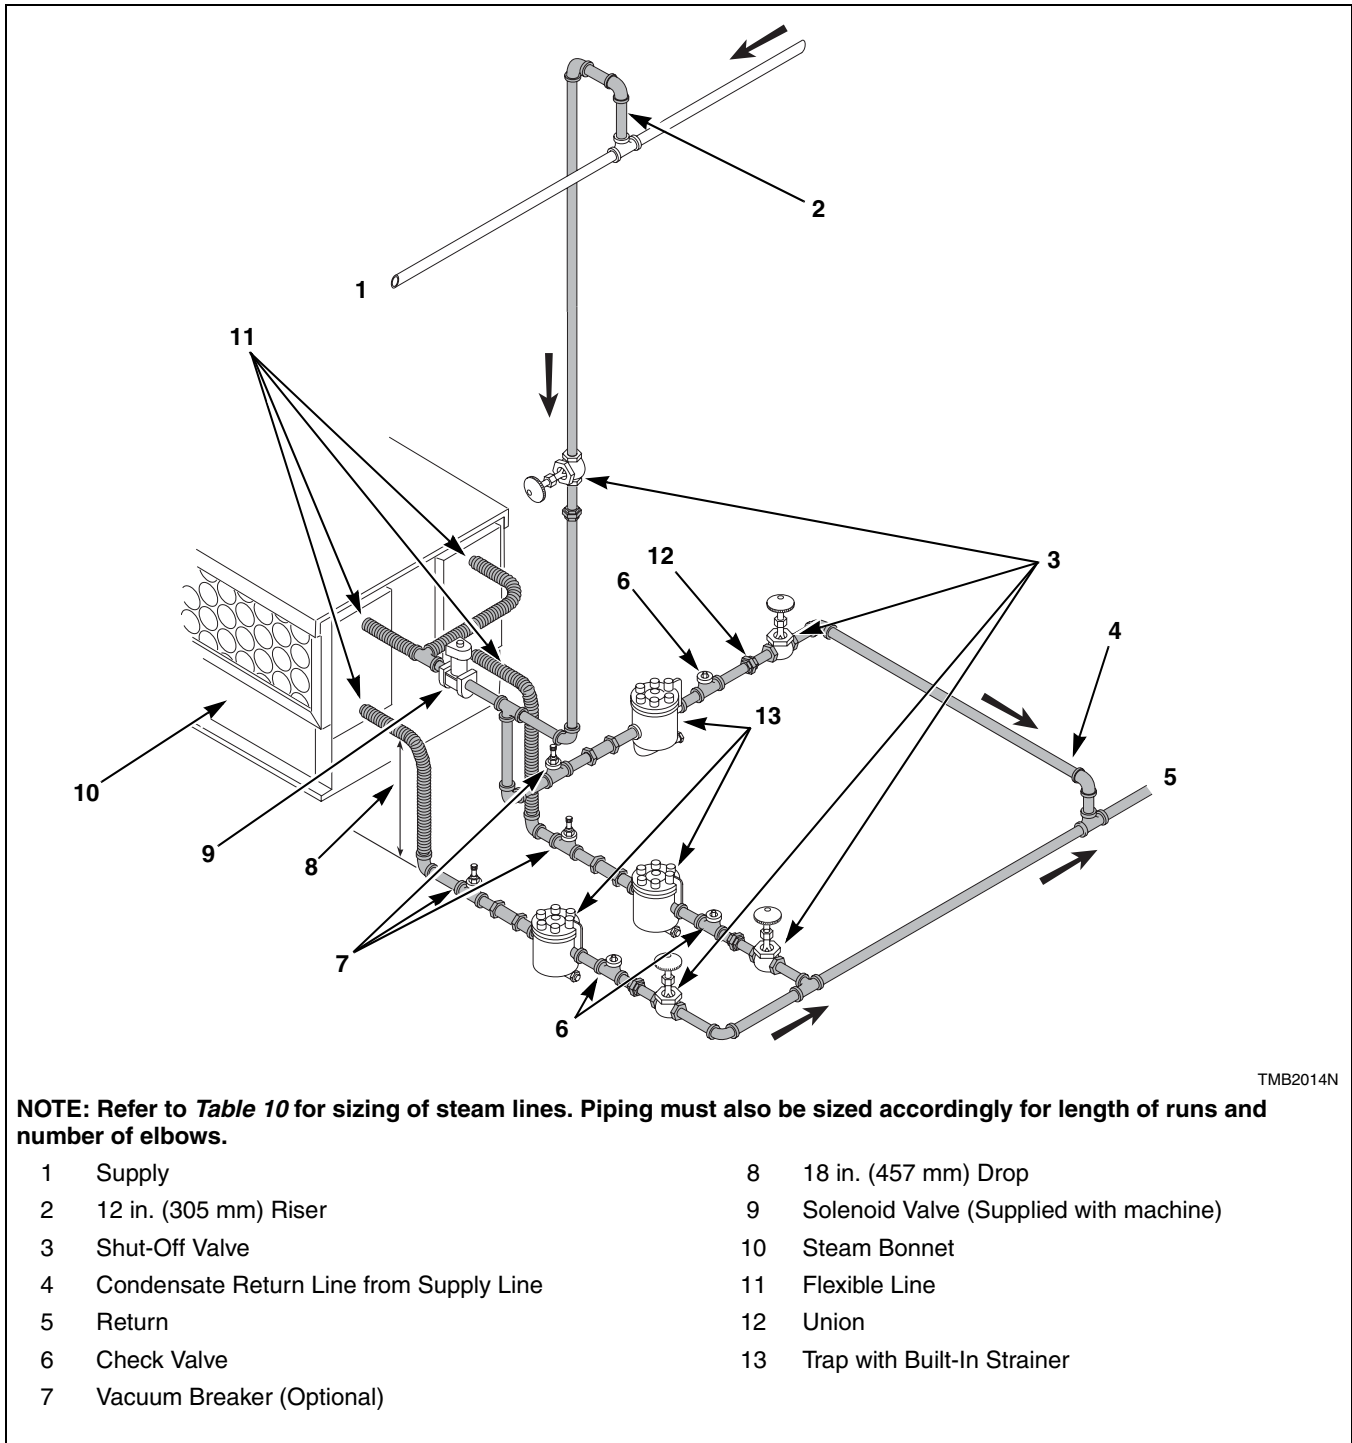
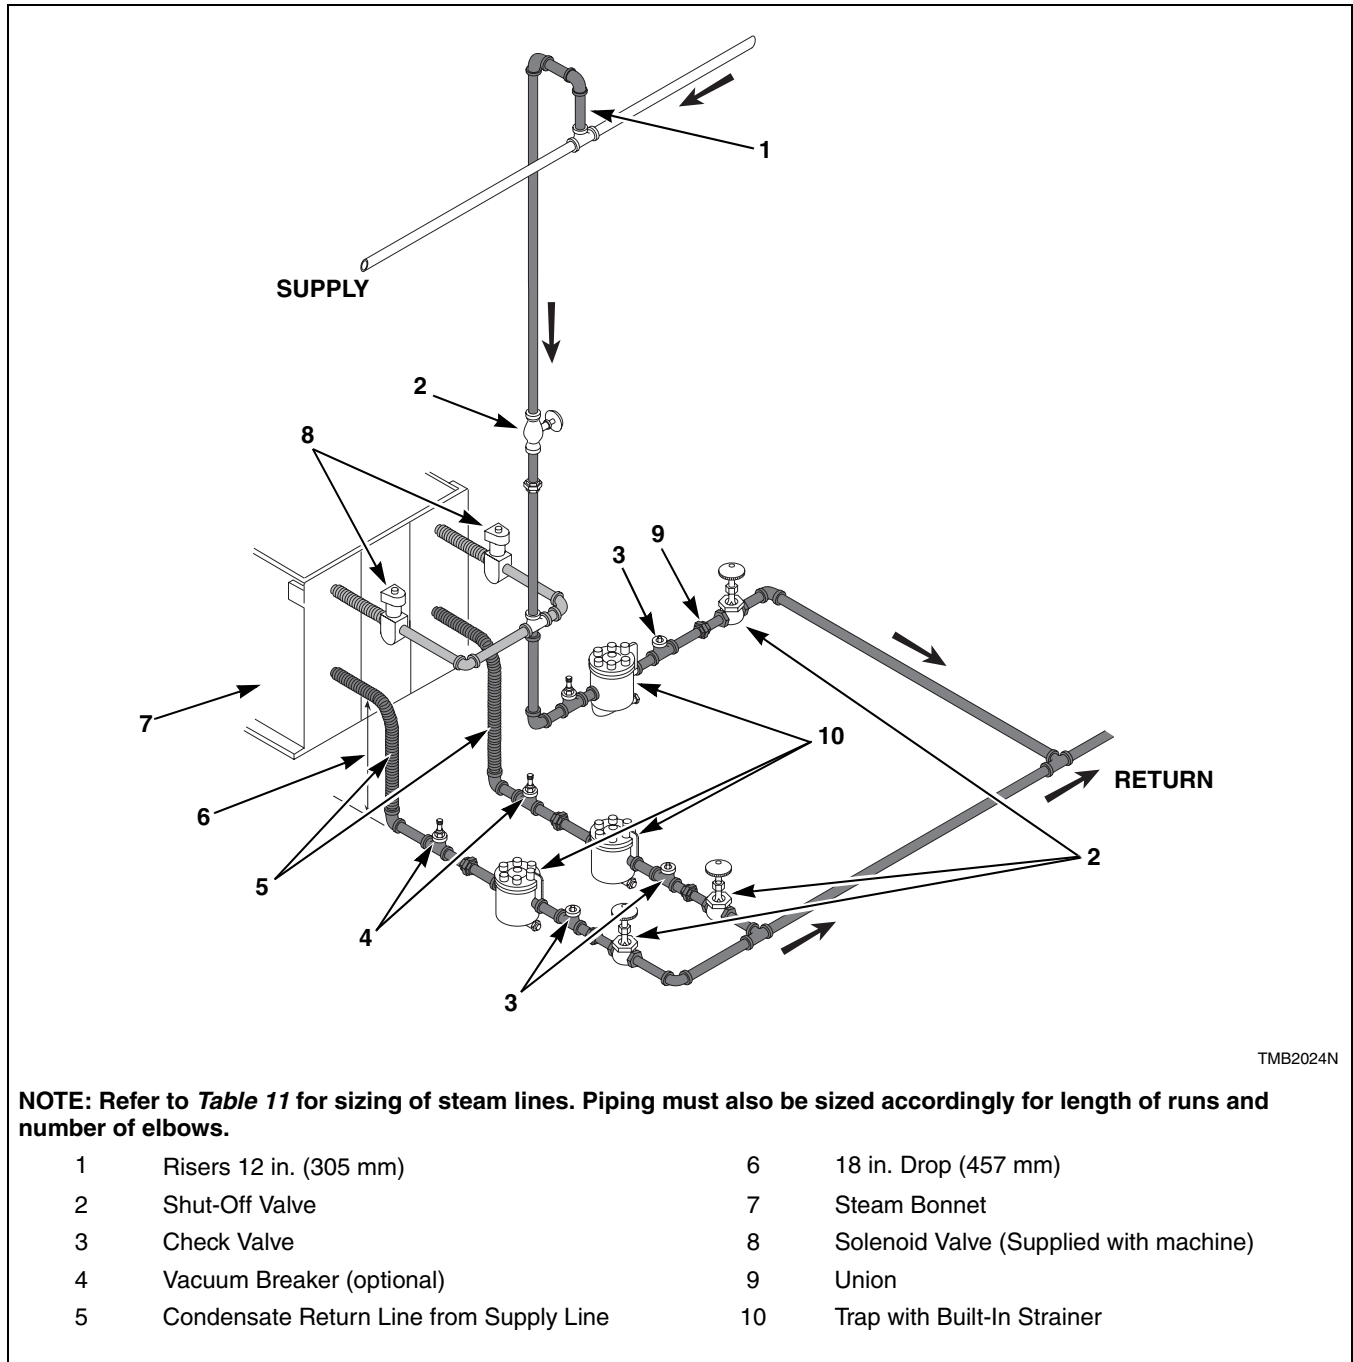

Figure 17
Figure 18
- Refer to *Figure 17* and *Figure 18* for proper steam pipe configurations.
The steam trap must be installed and the coil outlet connections must be connected to the condensate return lines. The following steps outline the procedure for installing the steam trap and connecting the condensate return lines. Refer to *Figure 17* and *Figure 18* for typical installations.